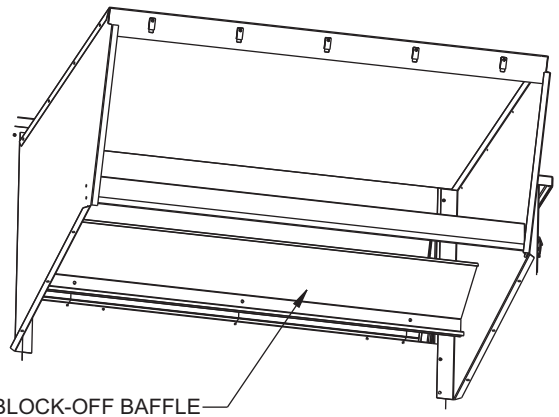

Fig. 33 — Mounting Block-Off Baffle to the Unit
9. Locate and mount block-off baffle using 3 screws. See Fig. 33.